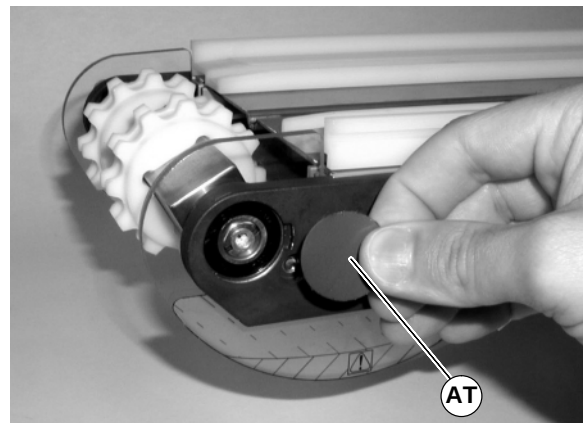

Figure 51
8. Install bearing cover (AT of Figure 51).